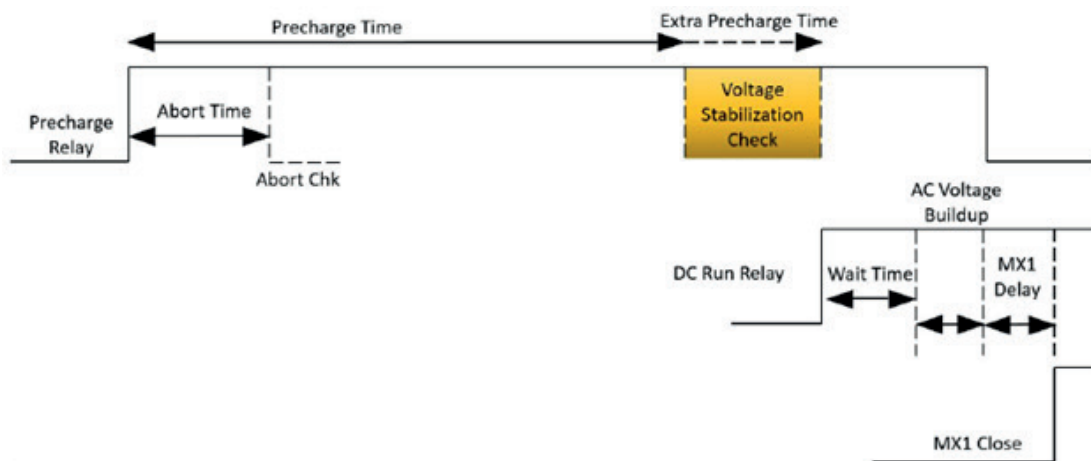
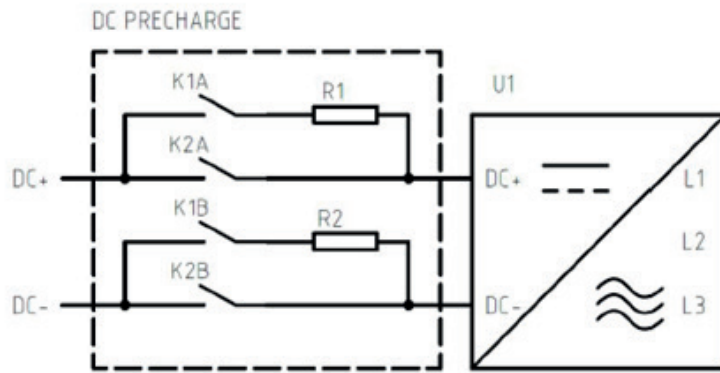

Figure 19. C-Cab XXL Pre-charge Sequence
Figure 20. DC Precharge circuit
As a standard feature, the C-Cab XXL performs pre-charging on the DC bus, which is the common method employed for Battery Energy Storage Systems (BESS). During its regular startup sequence, the C-Cab XXL initiates this pre-charge sequence automatically. The internal DC capacitors receive their charge from the DC source as part of the startup process. See Figure 19 and Figure 20 below for the complete sequence.
1. The pre -charge contactor, designated as K1A and K1B, closes (as shown in Figure 20).